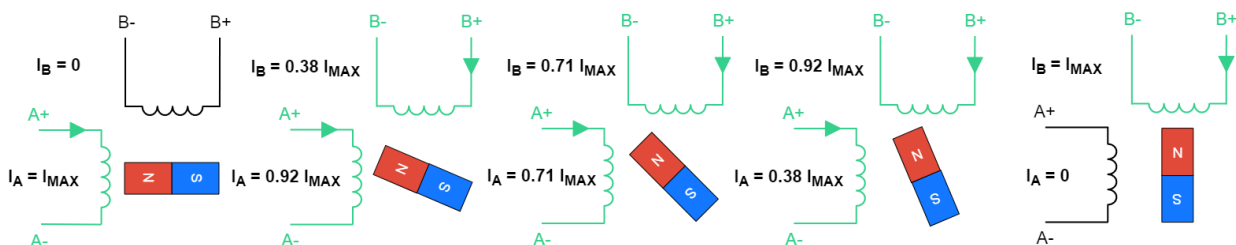

Figure 14: Microstepping
- Microstepping can be seen as a further enhancement of half-step mode, because it allows to reduce even further the step size and to have a constant torque output. This is achieved by controlling the intensity of the current flowing in each phase. Using this mode requires a more complex motor driver compared to the previous solutions. Figure 14 shows how microstepping works. If I_{MAX} is the maximum current that can flow in a phase, starting from the left, in the first figure $I_A = I_{MAX}$ and $I_B = 0$. In the next step, the currents are controlled to achieve $I_A = 0.92 \times I_{MAX}$ and $I_B = 0.38 \times I_{MAX}$, which generates a magnetic field that is rotated by 22.5° clockwise compared to the previous one. This step is repeated with different current values to reach the 45° , 67.5° , and 90° positions.